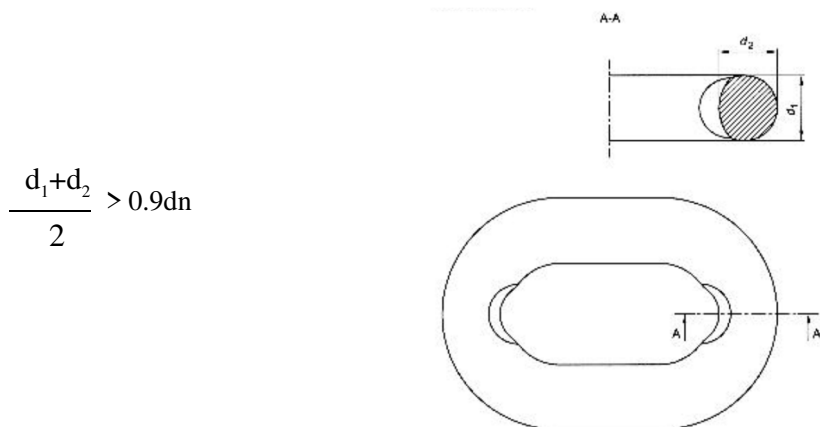

Fig. 5
- **WEAR:** the internal wear of the link can be measured by comparing the mean of the stated diameter (d1) and the perpendicular diameter (d2) with the nominal diameter (dn), a reduction up to 90% of the nominal diameter being allowed (see Fig. 5).